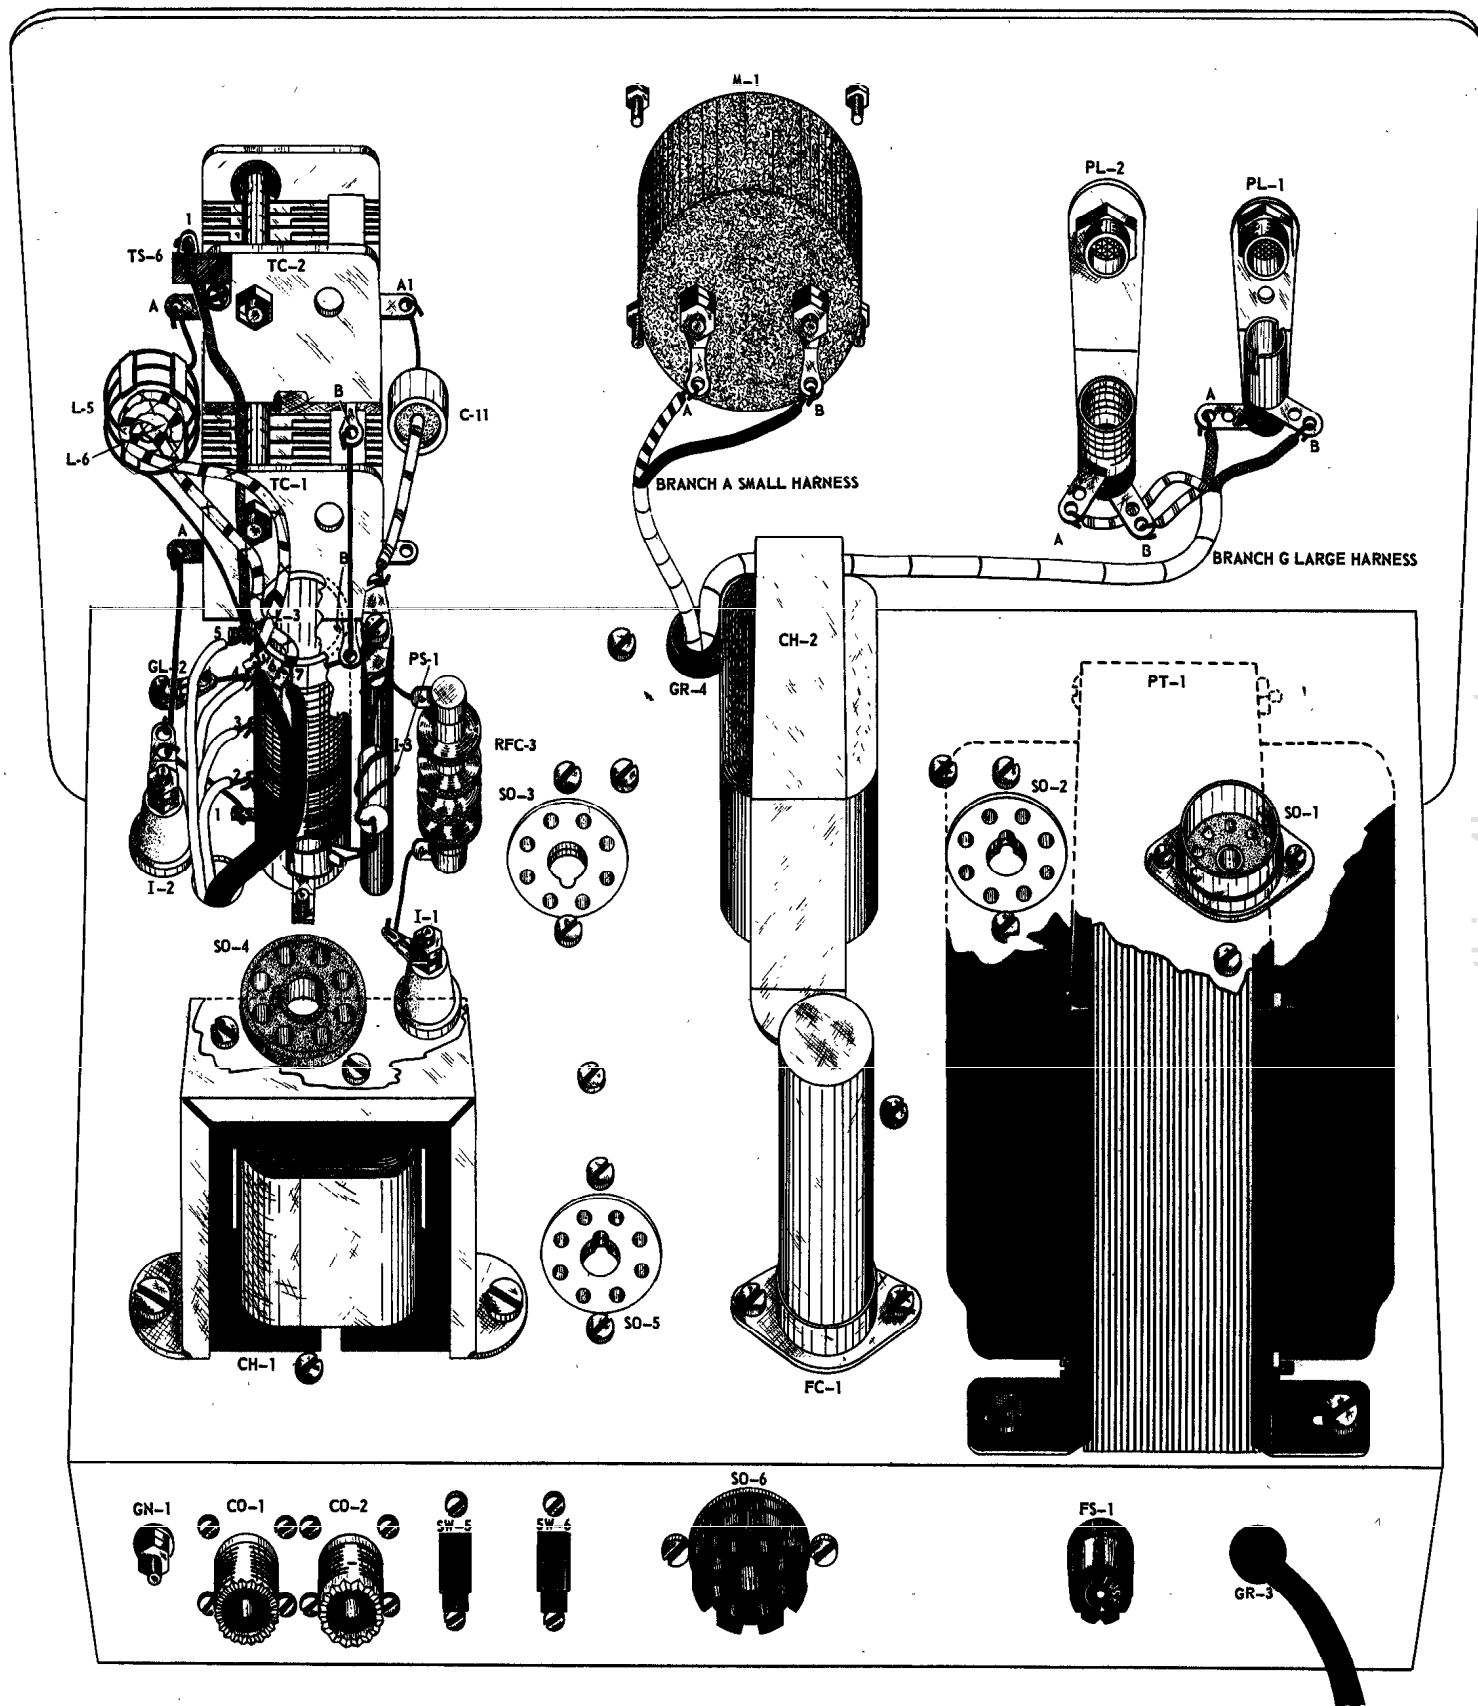

Figure 19. Top Of Chassis Wiring.
- ☐ 40. Route the white lead with yellow tracer of branch A to pin 8 of socket SO-2. Trim to length and remove $\frac{1}{4}$ " insulation from the end. Connect to pin 8 of SO-2. (NS).
- ☐ 41. Route the brown lead of branch H to to pin 6 of socket SO-2. Trim to length and remove $\frac{1}{4}$ " insulation from the end. Connect to pin 6 of SO-2. (NS).
- ☐ 42. Route the white lead of branch H to lug B of switch SW-1. Trim to length and remove $\frac{1}{4}$ " insulation from the end. Connect to lug B of SW-1. (NS).
- ☐ 43. Route the white lead with black tracer of branch H to pin 8 of socket SO-1. Trim to length and remove $\frac{1}{4}$ " insulation from the end. Connect to pin 8 of SO-1. (NS).
- ☐ 44. Route the remaining lead of branch H (yellow lead) to lug 1 of tie strip TS-1. Trim to length and remove $\frac{1}{4}$ " insulation from the end. Connect to lug 1 of TS-1. (NS).
- ☐ 45. Turn the chassis over so the rear apron is toward you and transformer PT-1 is on your right side. Refer to Fig. 19.
- ☐ 56. Route the remaining lead of branch C (white lead with black tracer) to lug 1 of tie strip TS-3. Trim to length and remove $\frac{1}{4}$ " insulation from the end. Connect to lug 1 of TS-3. (NS).
- ☐ 57. Route the white lead with black tracer of branch B to lug C of switch SW-3. Trim to length and remove $\frac{1}{4}$ " insulation from the end. Connect to lug C of SW-3. (S).
- ☐ 58. Route the white lead with red tracer of branch B to lug F of switch SW-3. Trim to length and remove $\frac{1}{4}$ " insulation from the end. Connect to lug F of SW-3. (S).
- ☐ 59. Route the red lead of branch B to lug E of switch SW-3. Trim to length and remove $\frac{1}{4}$ " insulation from the end. Connect to lug E of SW-3. (S).
- ☐ 60. Route the black lead of branch B to lug B of switch SW-3. Trim to length and remove $\frac{1}{4}$ " insulation from the end. Connect to lug B of SW-3. (S).
- ☐ 61. Route the orange lead of branch B to lug A of switch SW-3. Trim to length and remove $\frac{1}{4}$ " insulation from the end. Connect to lug A of SW-3. (S).
- ☐ 63. Turn the chassis over so it appears as in Fig. 19.
- ☐ 64. Route the red lead of branch A to lug A of the meter M-1. Trim to length and remove $\frac{1}{4}$ " insulation from the end. Connect to lug A of M-1. (S).
- ☐ 65. Route the remaining lead of branch A (black lead) to lug B of the meter M-1. Trim to length and remove $\frac{1}{4}$ " insulation from the end. Connect to lug B of M-1. (S).